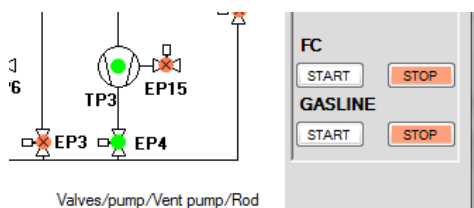

Figure 293: Launch the pumping of the Oxygen line by clicking on GASLINE > START
- If Oxygen gas has been introduced in the source during a previous session, pump the gas by clicking on GASLINE > START in the vacuum synoptic window (Figure 293).